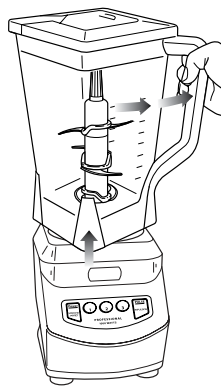

Fig. 6
- 11 Press the power button (⏻) to turn the appliance off. Wait for the stacked blade assembly to stop moving before removing the pitcher (**Fig. 6**).